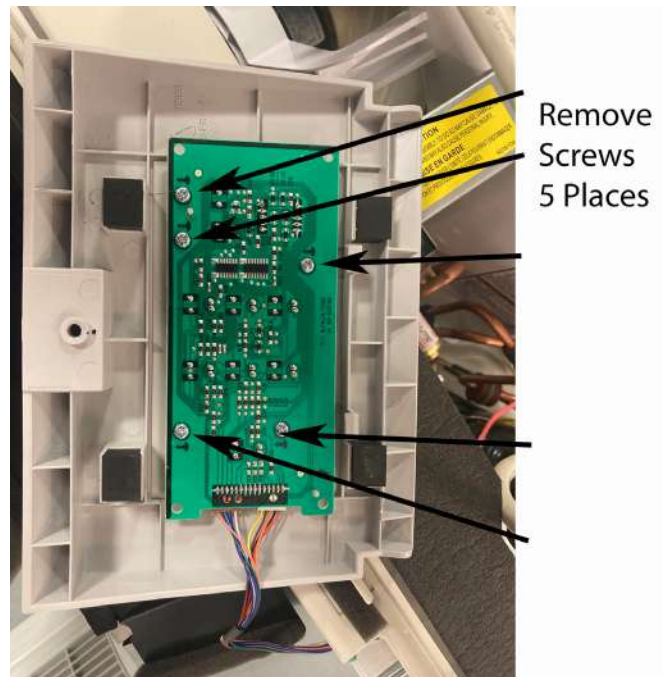
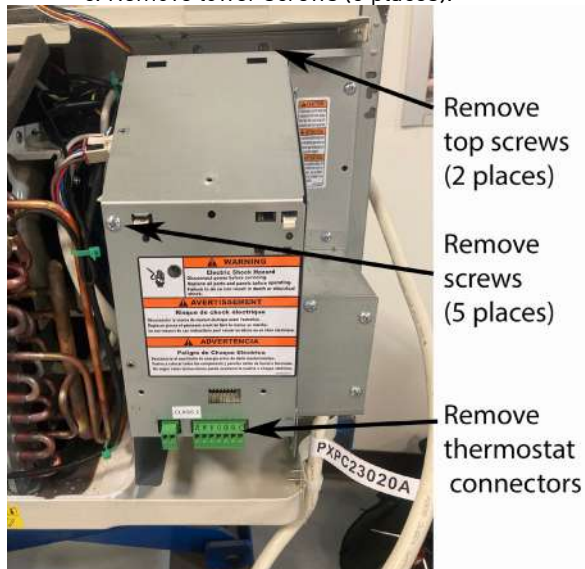
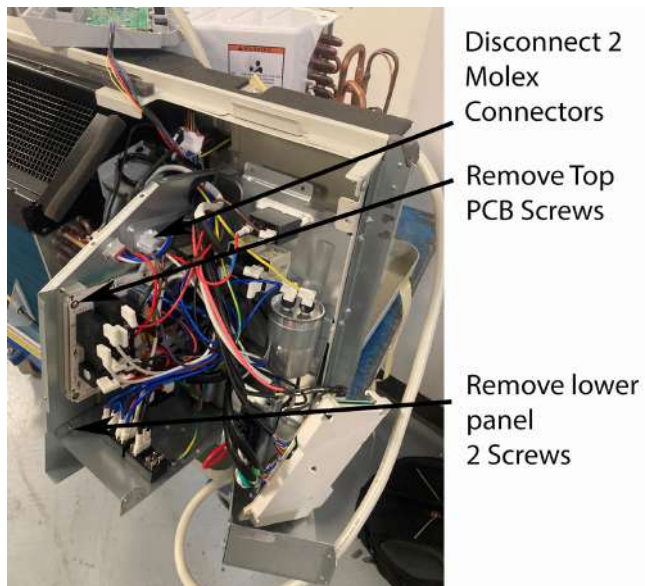

Figure 504
Figure 507
Figure 512
2. Remove 5 screws attaching display PCB to cover. See figure 504.
4. Remove PCB Access Panel. See Figure 507.
9. Remove lower panel (2 screws.) See figure 512.
10. Disconnect 2 Molex Connectors See figure 512.
12. Remove 2 top screws from Power Board and separate from supporting board. See figure 512.
2. Remove Display Board (See Figure 504), and separate Electrical Box from unit by removing top 2 screws (See Figure 507), disconnecting 2 molex connectors (See Figure 512), and sliding box up and out.